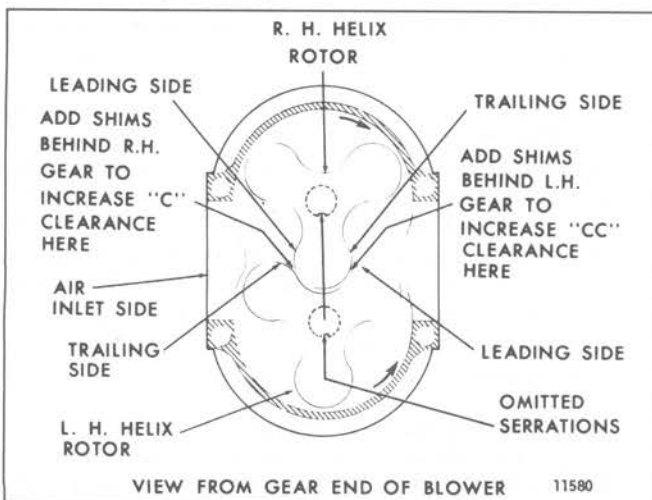

Fig. 24 – Diagram Showing Proper Location of Shims for Correct Rotor Lobe Clearances
- After determining the amount one rotor must be revolved to obtain the proper clearance, add shims back of the proper gear to produce the desired result (Fig. 24). When more or less shims are required, both gears must be removed from the rotors. Placing a .003" shim in back of a rotor gear will revolve the rotor .001".